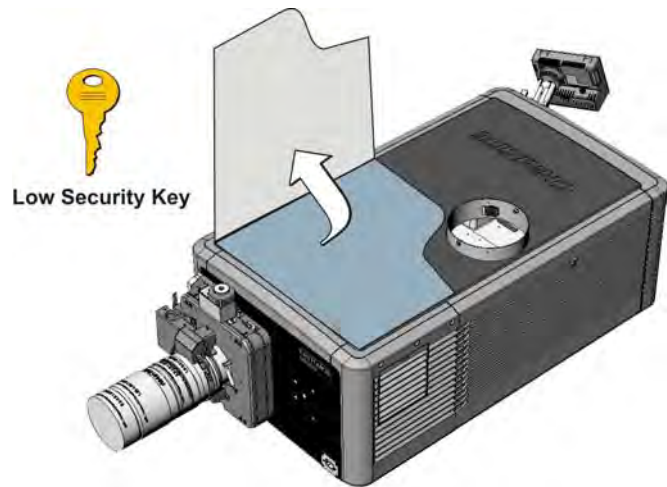

Figure 5-1 Front Top Lid
1. Unlock front top lid using the low security key provided. **(Figure 5-1)**